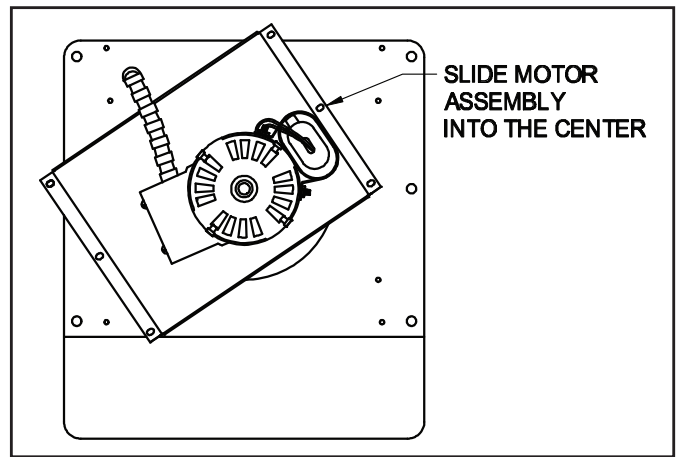

Figure 10
2. Remove the screws securing the motor assembly. Rotate the motor assembly counterclockwise and slide the assembly into the center. Then pull the motor assembly out of the unit. (See Figure 10)